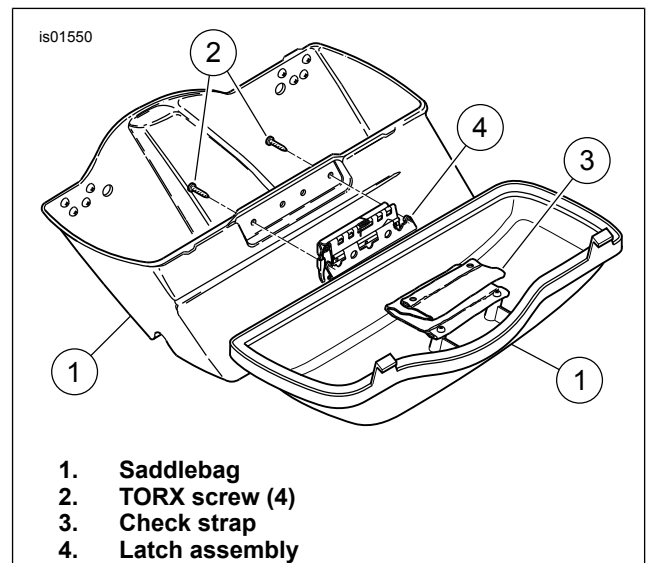

Figure 1. Saddlebag Lid Removal (left side shown)
2. See Figure 1. Open the saddlebag lid.
3. See service manual and remove the saddlebag (1) from the motorcycle, leaving the lid open.
1. See Figure 1. Remove two TORX® screws (2) holding the check strap (3) and latch assembly (4) to the saddlebag (1). Save screws for later use.
1. See Figure 1. Close the saddlebag lid.
2. See the service manual and install saddlebag (1).